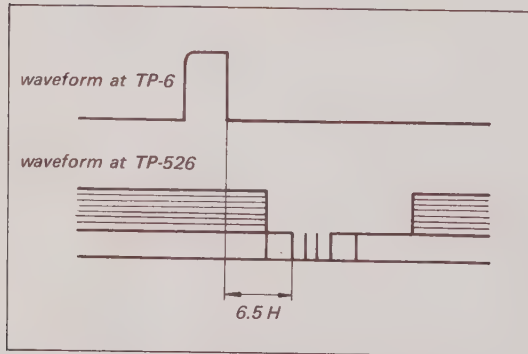

Fig. 7-5. Phase lock adjustment
6. Observe the waveform as shown in Fig. 7-5 and adjust R34 on the B-R board for a 6.5H interval between the trailing edge of the waveform at TP-6 and the leading edge of vertical sync at TP-526.